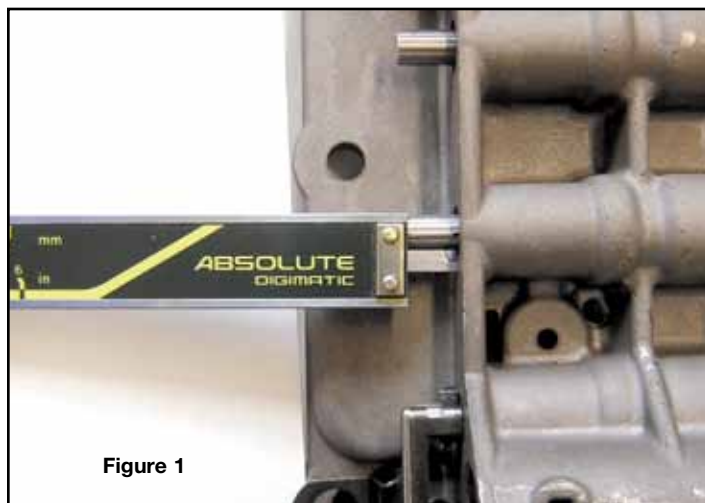

Figure 1
- Measure and record the distance from the end of the adjuster to the valve body casting (**Figure 1**).